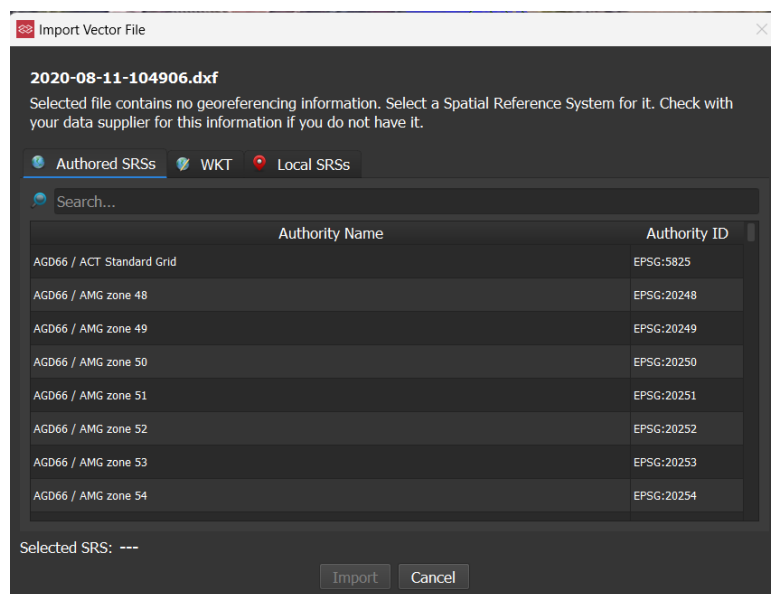

Fig. 43 Spatial Reference System selection of the Layers to import
4. Specify the Spatial Reference System (that must be the same as the Project) Fig. 43, then press Import.